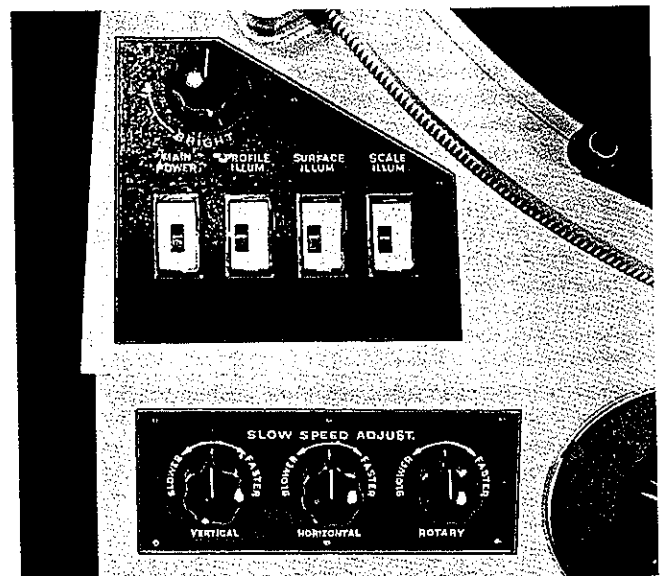

Figure 4
The main power panel consists of five controls, four switches and one control knob (see Figure 4). Reading from left to right the switches are:
1. The speed adjusts are all located on a panel marked "Slow Speed Adjust" directly below the main power panel (Figure 4). The adjusts show on this panel as three control knobs labeled "Vertical", "Horizontal", and "Rotary".